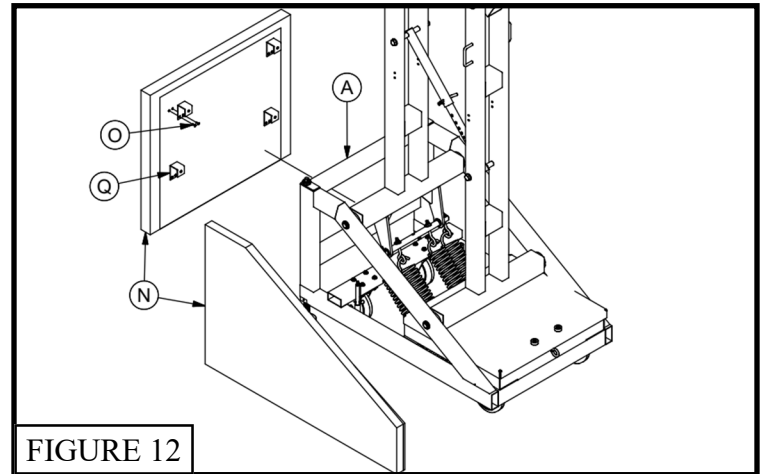

FIGURE 12
20. Install *Padding Brackets* (Q) on the *Front and Side Pads* (N) with $1/4"$ -20 *Flat Head Screws* (O). Install *Front and Side Pads* (N) to the *Portable Base* (A) by sliding the *Padding Brackets* (Q) over the base frame. Tighten the bracket set screws once padding is properly positioned. See Figure 12.